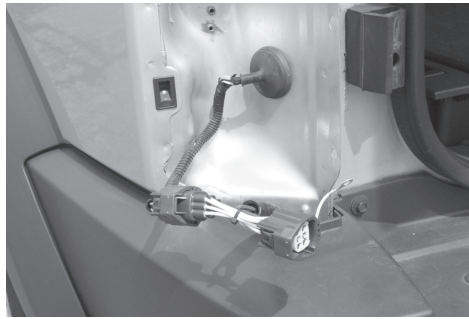

Fig. 1
3. On the driver side & passenger side disconnect the taillight socket connectors that match the connectors on T-Connector assembly shown in **Figure 1** taking care not to break the locking tabs